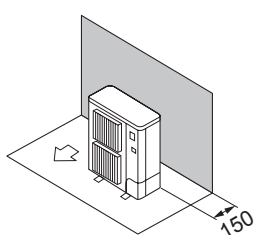

Fig. 2-7
- ① Solo ostacoli posteriori (Fig. 2-7)